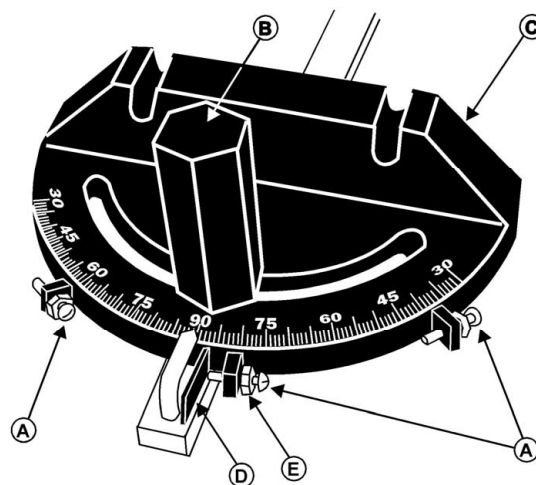

Figure 32
Your miter gauge is equipped with individually adjustable index stops at 90 degrees and 45 degrees right and left. The index stops can be adjusted by tightening or loosening the three adjusting screws (A). See Figure 32.
1. Set the gauge at 90 degrees as shown in Figure 32.
3. If it does not, loosen lock handle (B - Figure 32).
4. Loosen locknut (E), and adjust the stop screw, (A), so it strikes the stop link (D) when the gauge is at 90 degrees.
5. Retighten both the locknut (E) and lock handle (B).